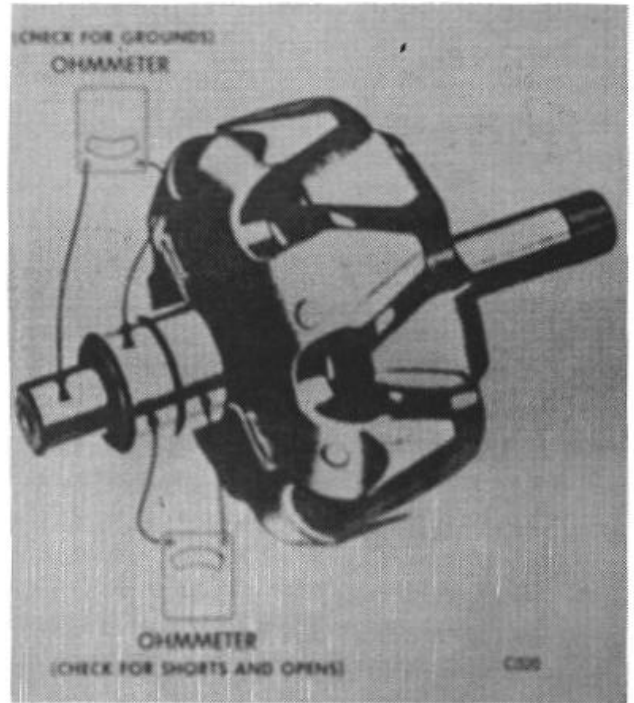

Figure 11.
a. To check for grounds, connect a 110-volt test lamp or an ohmmeter from either slip ring to the rotor shaft or to the rotor poles. If the lamp lights, or if the ohmmeter reading is low, the field winding is grounded. (Fig. 11)
b. To check for opens, connect the test lamp or ohmmeter to each slip ring. If the lamp fails to light, or if the ohmmeter reading is high (infinite), the winding is open. (Fig. 11)